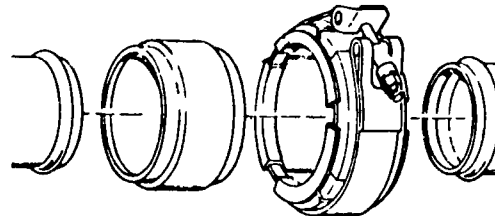

Figure 14.
- \_\_\_ 2. The coupling shown in figure 14 is used to attach units to the ducts in the hot bleed air system.